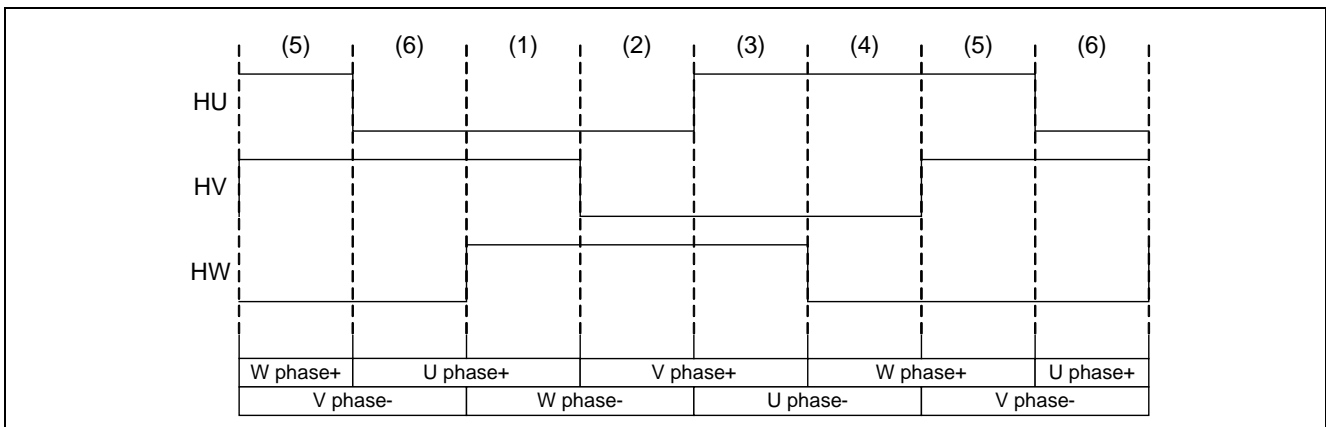
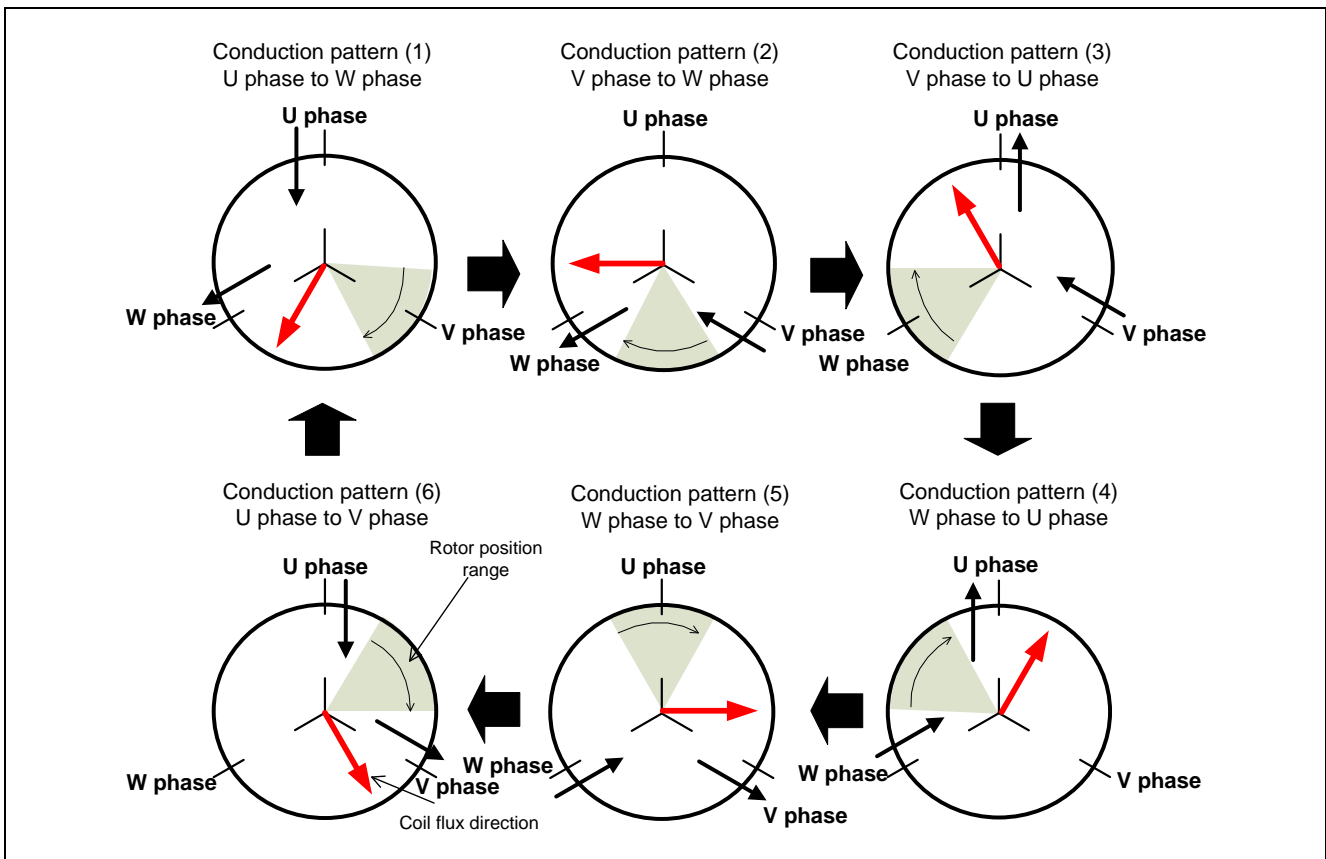

Figure 3-2 Relation between Hall Sensor Signals and Conduction Patterns (rotation direction: CW)
Figure 3-3 Six Conduction Patterns and Rotor Position Ranges
If the conduction patterns of each phase are changed at the switching timing of these hall sensor signals as shown in Figure 3-2, rotating coil flux generates a torque with the permanent magnet and the rotor rotates as shown in Figure 3-3.
The relation between above-mentioned six conduction patterns and rotor position ranges is shown in Figure 3-3.
1. The relation between hall sensor signals and conduction patterns shown in Figure 3-3 is set to be suitable for this system. A different motor specification requires setting different conduction patterns appropriate to the system.